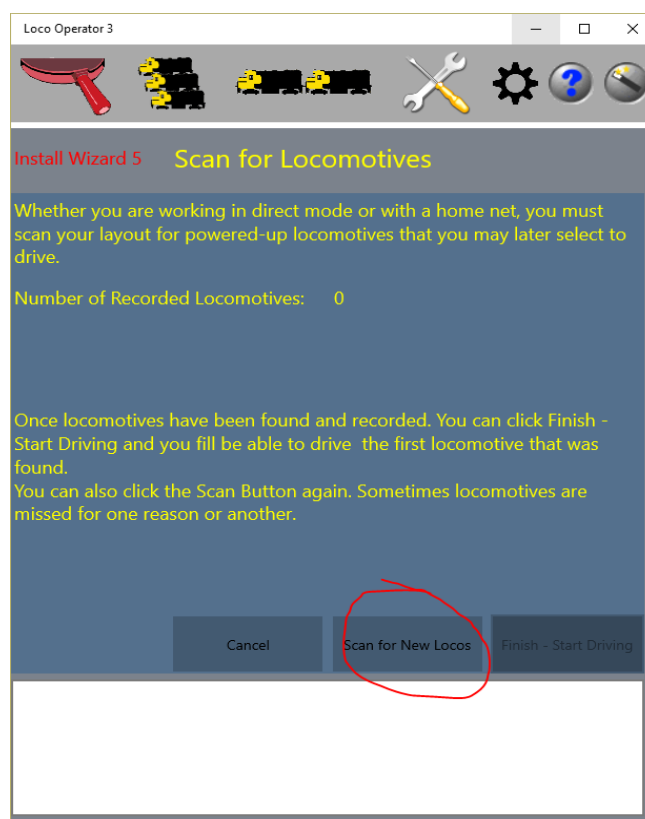

Figure 48 Install Wizard Page 5, Scan for Locomotives
- (6) Now you see Install Wizard 5 as Figure 48. By this time, your Wi-Fi Router should have allocated IP addresses to your locomotives. Click the Scan for New Locos button. And Continue on the pop-up. Your computer will connect to your Home Net and test each IP Address in your specified range to find modules.
- (7) Once one or more module has been found, set the decoder models again, click Done and click the Finish-Start Driving button and you can perform the same tests as you did in Direct Mode. The roster is already stored in your WFD-30 and does not need to be re-entered.